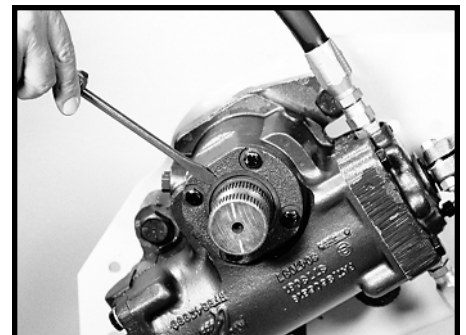

Figure 7
- 1.2 Remove protector boot (63), grease fitting (64), if included, and dirt and water seal (27). SEE FIGURE 7. Discard protector boot and dirt and water seal.